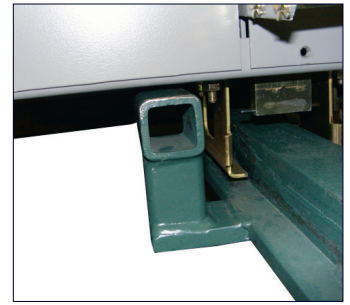
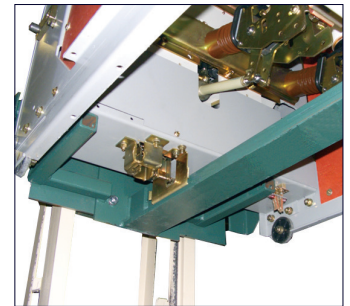
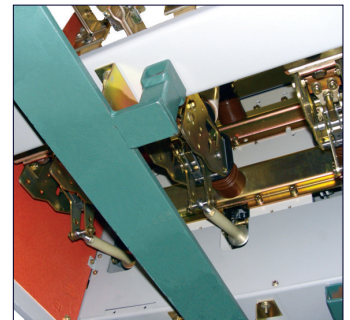

Figure 53: Alignment of lift truck with circuit breaker (or 63 kA rollout tray)
Figure 54: Front support locations
Figure 55: Rear support location
4. Pull the circuit breaker or rollout tray out of the cubicle and onto the extension rails while maintaining proper alignment between the center fork of the lift truck and the guide brackets on the bottom of the circuit breaker or rollout tray as shown in Figure 53: Alignment of lift truck with circuit breaker.
6. Verify the position of the forks under the circuit breaker or rollout tray to ensure that it is properly supported as shown in Figure 54: Front support locations and Figure 55: Rear support location. The circuit breaker or rollout tray is supported in three locations: under the right side of the operator housing, under the left side of the operator housing and under the left side of the rear cross member. The forks of the lift truck should not make contact with any other part of the circuit breaker or rollout tray. There should be a 1/4" gap between the center fork of the lift truck and the guide brackets under the breaker as shown in Figure 53: Alignment of lift truck with circuit breaker.